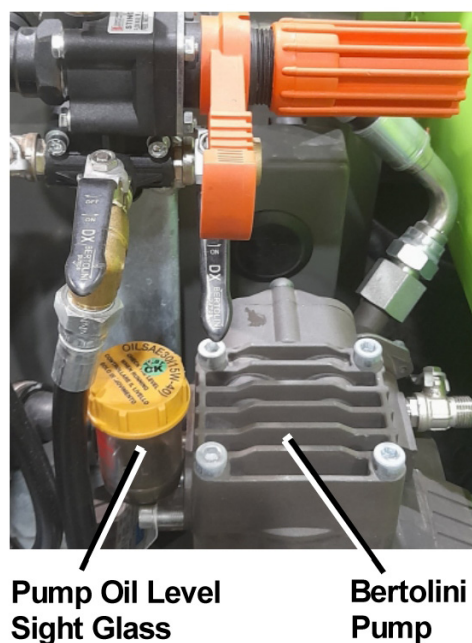

Figure 14 – Pump Oil Level Sight Glass
1. Refer to the supplied pump manual, drain and replace the engine oil in accordance with the manufacturer's recommendations (refer to Figure 14).